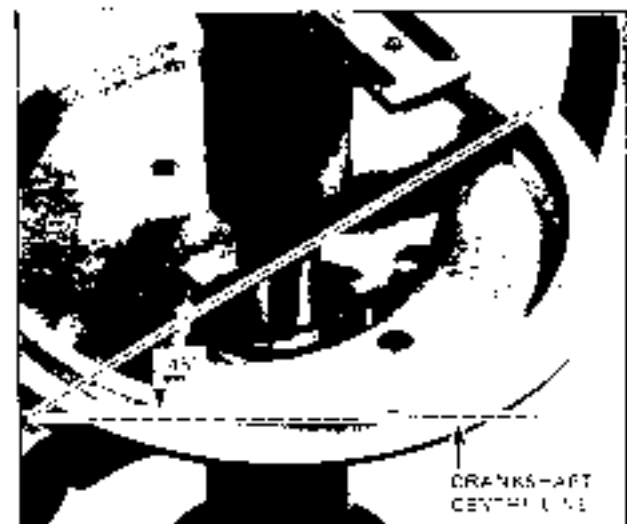

Figure 6D-41
4. Place a right angled set square across the top face of the distributor body. Align the centre mark on the rotor button and the No. 1 cylinder mark on the distributor body by rotating the body. Refer Fig. 6D-42.